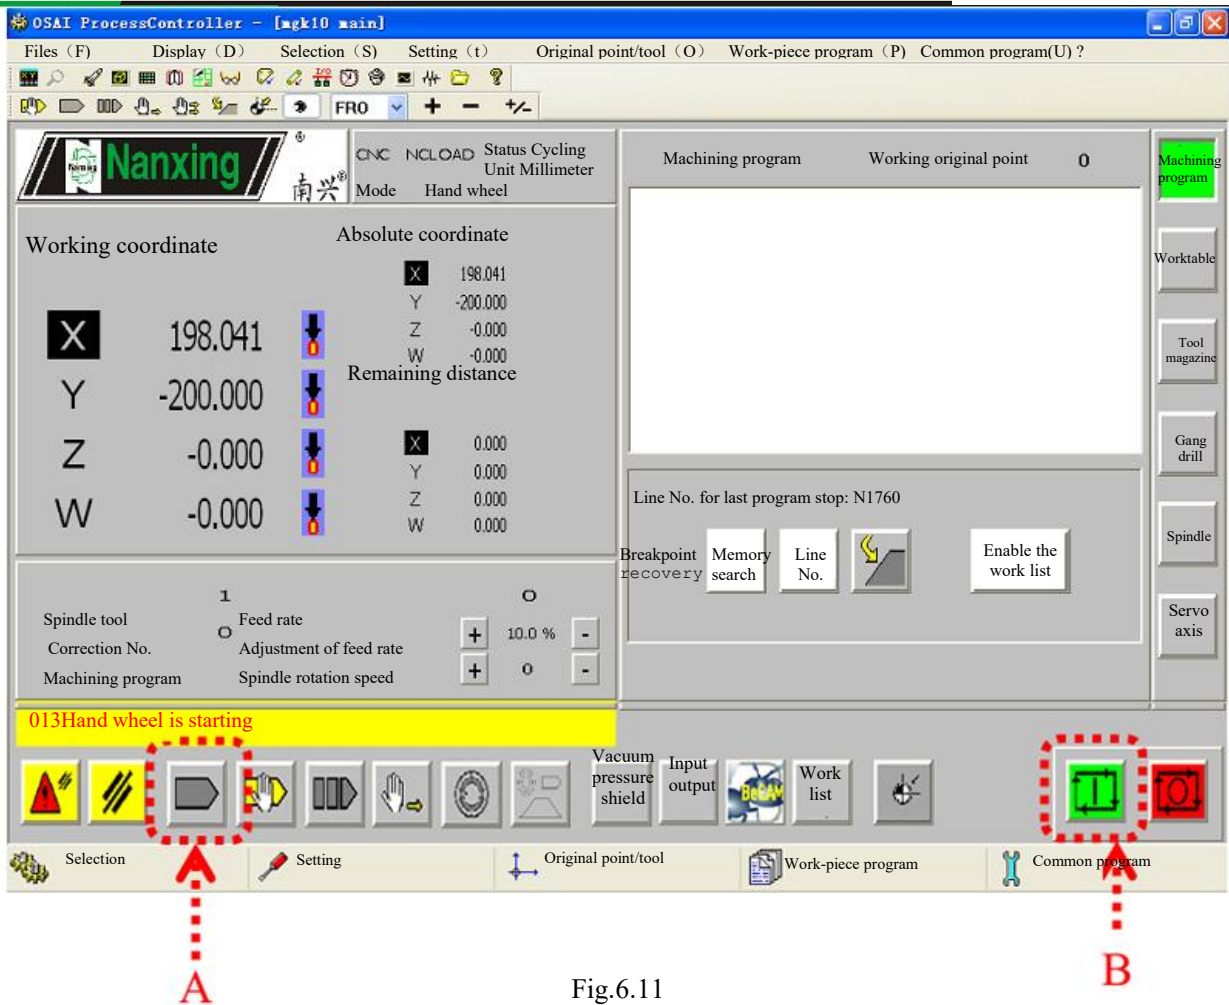

Fig.6.11
1. Click  (Automatic machining), as shown in Fig.6.11 (A)
2. Click  to execute NC program, as shown in Fig.6.11 (B).